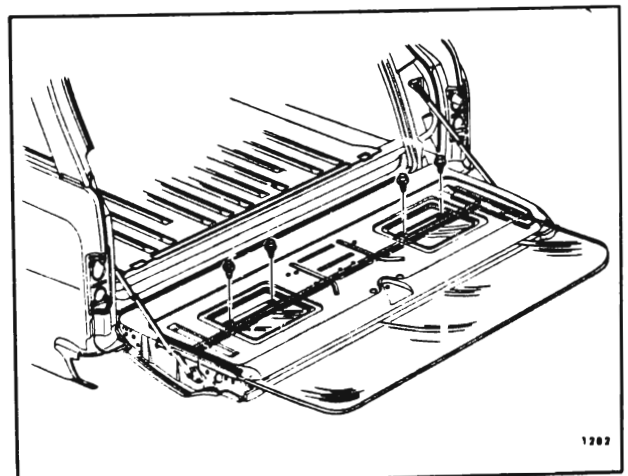

Fig. 9-10—Tail Gate Inner Panel Cams Attachment
2. Operate tail gate window to a point that sash channel cam attaching bolts are accessible as depicted in Figure 9-10.
3. Remove right and left cam attaching bolts (Fig. 9-10). Slide cams sideways to disengage from regulator lift arm rollers and remove cams from tail gate.